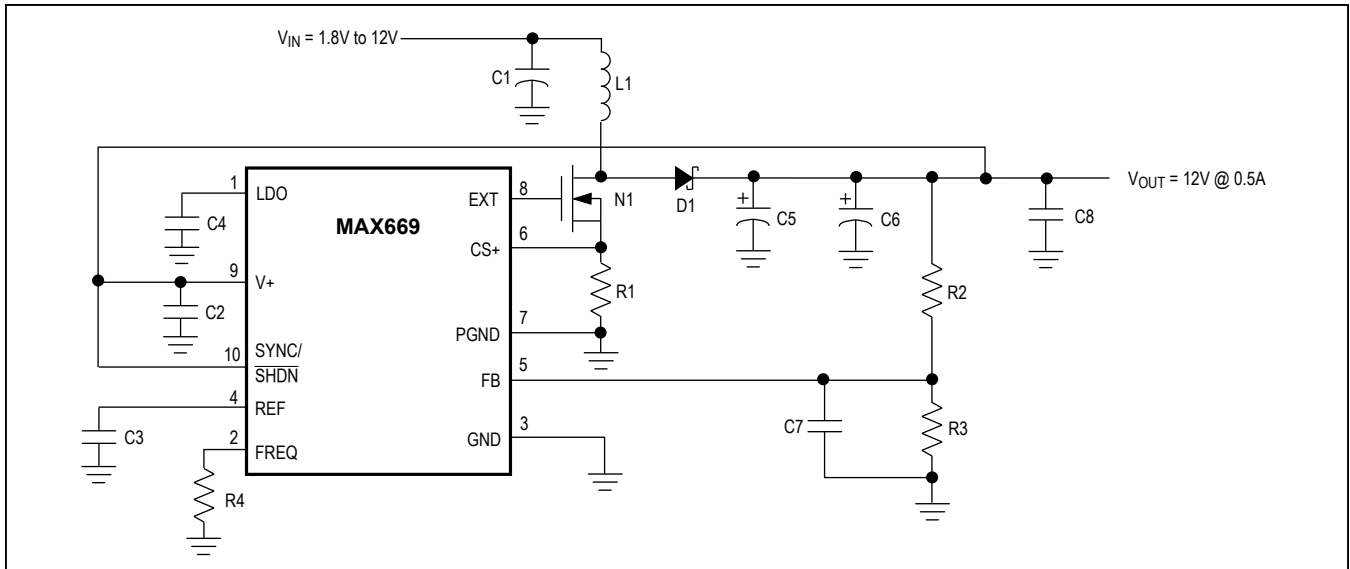
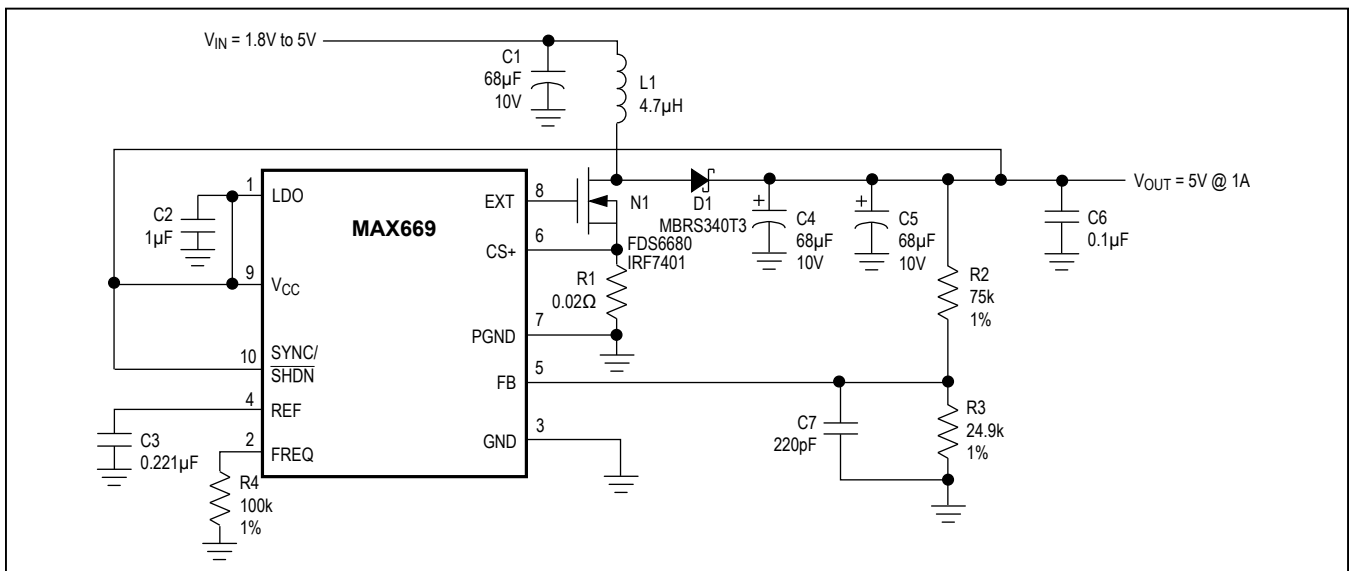
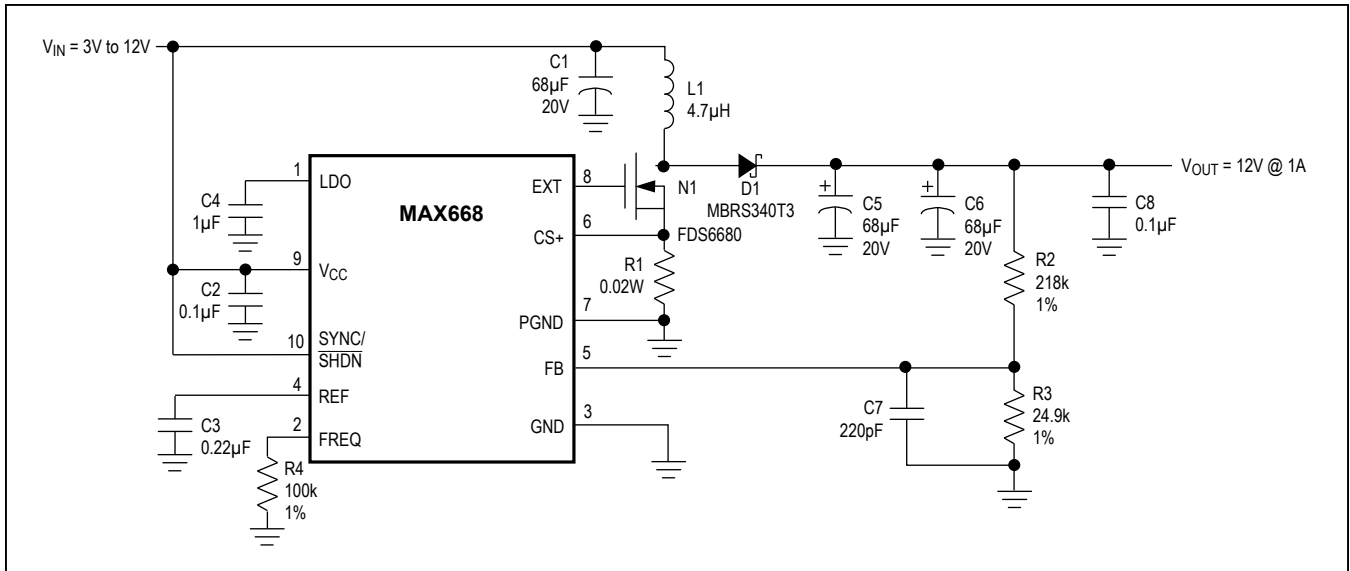
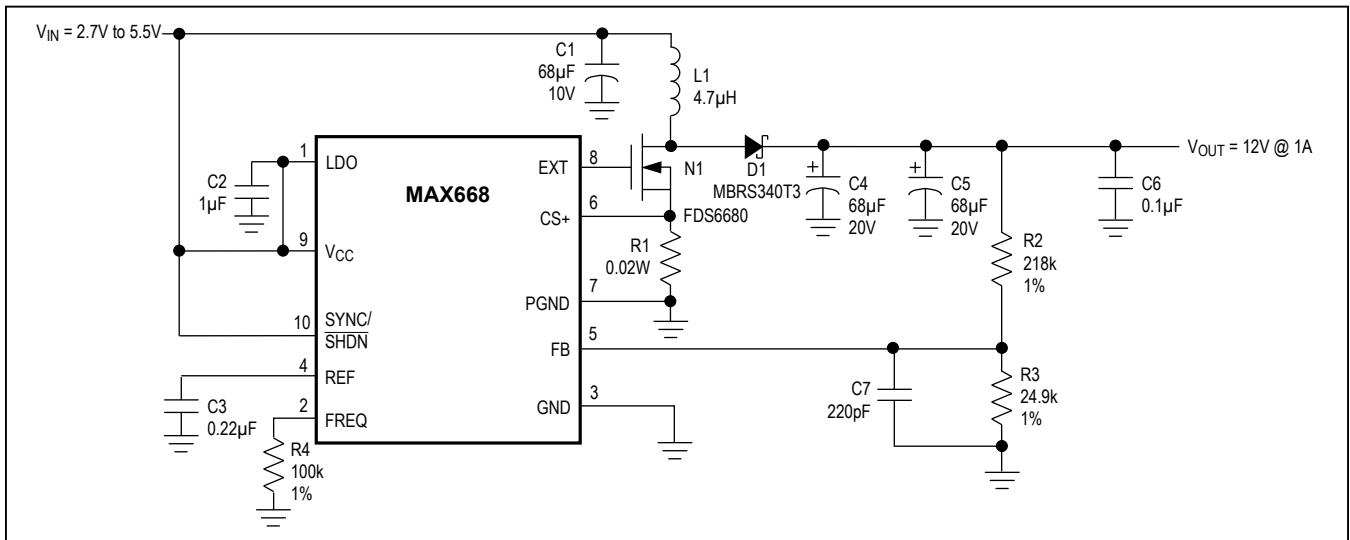

Figure 2. MAX669 High-Voltage Bootstrapped Configuration
Figure 3. MAX669 Low-Voltage Bootstrapped Configuration
Figure 4. MAX668 High-Voltage Non-Bootstrapped Configuration
Figure 5. MAX668 Low-Voltage Non-Bootstrapped Configuration
(Circuits of Figures 2, 3, 4, and 5; $T_A = +25^\circ\text{C}$; unless otherwise noted.)
V_{CC} and LDO allow a variety of biasing connections to optimize efficiency, circuit quiescent current, and full-load start-up behavior for different input and output voltage ranges. Connections are shown in Figure 2, Figure 3, Figure 4, and Figure 5. The characteristics of each are outlined in Table 1.
With V_{CC} connected to V_{OUT} , as in Figure 2, EXT voltage swing is 5V when V_{CC} is 5.2V or more, and $V_{CC} - 0.2V$ when V_{CC} is less than 5.2V. If the output voltage does not exceed 5.5V, the on-chip regulator can be disabled by connecting V_{CC} to LDO (Figure 3). This eliminates the LDO forward drop and supplies maximum gate drive to the external FET.
With non-bootstrapped operation, the IC is powered from the input voltage (V_{IN}) or another source, such as a logic supply. Non-bootstrapped operation (Figure 4) is recommended (but not required) for input voltages above 5V, since the EXT amplitude (limited to 5V by LDO) at this voltage range is no higher than it would be with bootstrapped operation. Note that non-bootstrapped operation is *required* if the output voltage exceeds 28V, since this level is too high to safely connect to V_{CC} . Also note that **only the MAX668 can be used with non-bootstrapped operation.**
If the input voltage does not exceed 5.5V, the on-chip regulator can be disabled by connecting V_{CC} to LDO (Figure 5). This eliminates the regulator forward drop and supplies the maximum gate drive to the external FET for lowest on-resistance. Disabling the regulator also reduces the non-bootstrapped minimum input voltage from 3V to 2.7V.
* For standard step-up DC-DC circuits (as in Figures 2, 3, 4, and 5), regulation cannot be maintained if V_{IN} exceeds V_{OUT} . SEPIC and transformer-based circuits do not have this limitation.
The output voltage is set by two external resistors (R_2 and R_3 , Figure 2, Figure 3, Figure 4, and Figure 5). First select a value for R_3 in the 10k Ω to 1M Ω range. R_2 is then given by:
where $R2$ and $R3$ are the feedback resistors (Figure 2, Figure 3, Figure 4, and Figure 5). If the calculated value for C_{FB} results in a non-standard capacitance value, values from $0.5C_{FB}$ to $1.5C_{FB}$ will also provide sufficient compensation.
In non-bootstrapped configurations (Figure 4, and Figure 5), the MAX668 can start up with any combination of output load and input voltage at which it can operate when already started. In other words, there are no special limitations to start up in non-bootstrapped circuits.
Figure 5 shows the MAX668 operating in a 5V to 12V boost application. This circuit provides output currents of greater than 1A at a typical efficiency of 92%. The MAX668 is operated in non-bootstrapped mode to minimize the input supply current. This achieves maximum light-load efficiency. If input voltages below 5V are used, the IC should be operated in bootstrapped mode to achieve best low-voltage performance.